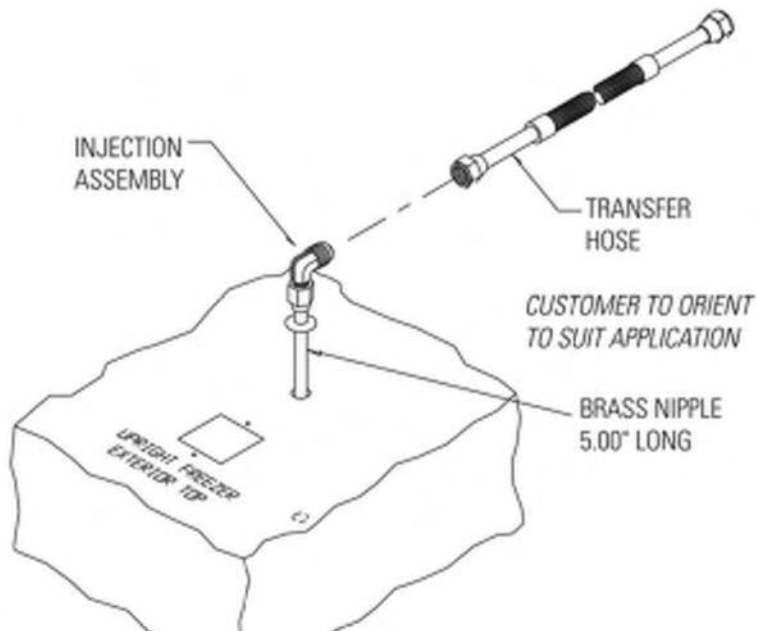

Figure 5-1. Injection Assembly
1. Install the injection assembly (Figure 5-1) through the 1/2" pre-punched hole, directly behind the 2" vent stack hole in the center of the chamber ceiling.